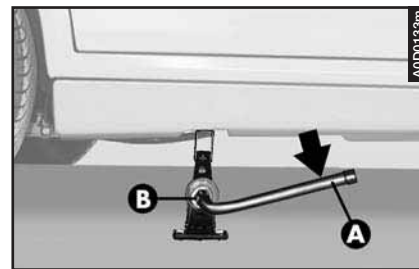

fig. 8
– Fit the L-wrench (**A-fig. 8**) on the jack pin (**B**).
— Fit the L-wrench (**A-fig. 8**) on the jack pin (**B**).